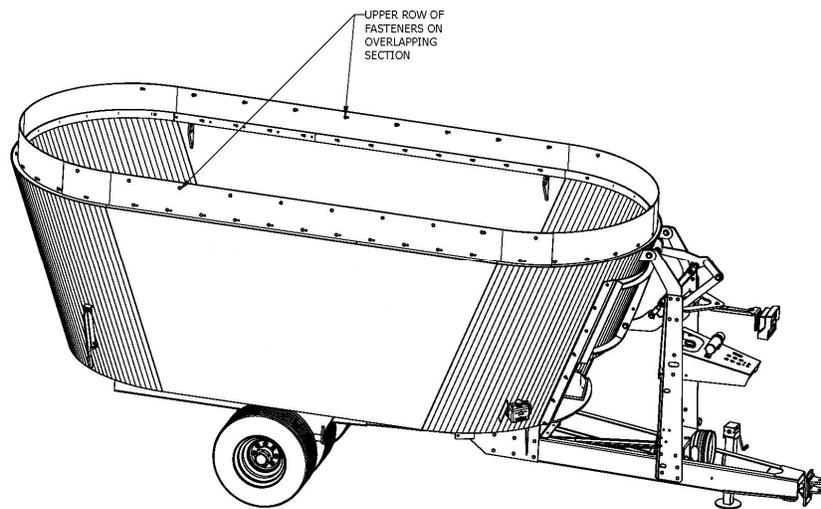

Figure 20 Securing Upper Row of Fasteners
7. Using the remaining hardware, drill and fasten a second row at the top of the overlapping extension sections (see Figure 20 below).